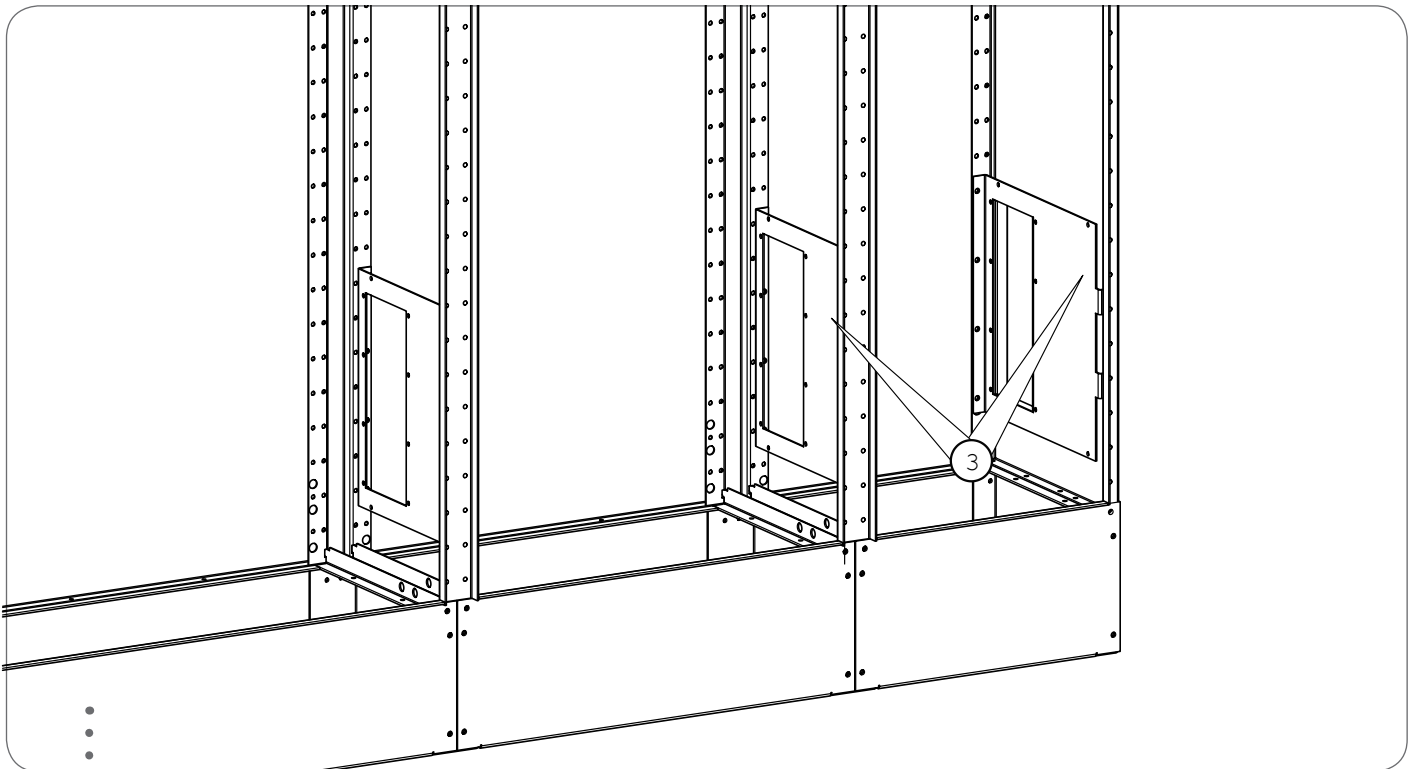

Fig 8.4.2 Installing busbar holders to back plates and front plates.
The busbar insulator holders (1) are used for installing busbars in the cell centre. The busbar insulator holders are fastened to the side plates/front profiles using assembly screws as shown in Fig. 8.4.2.